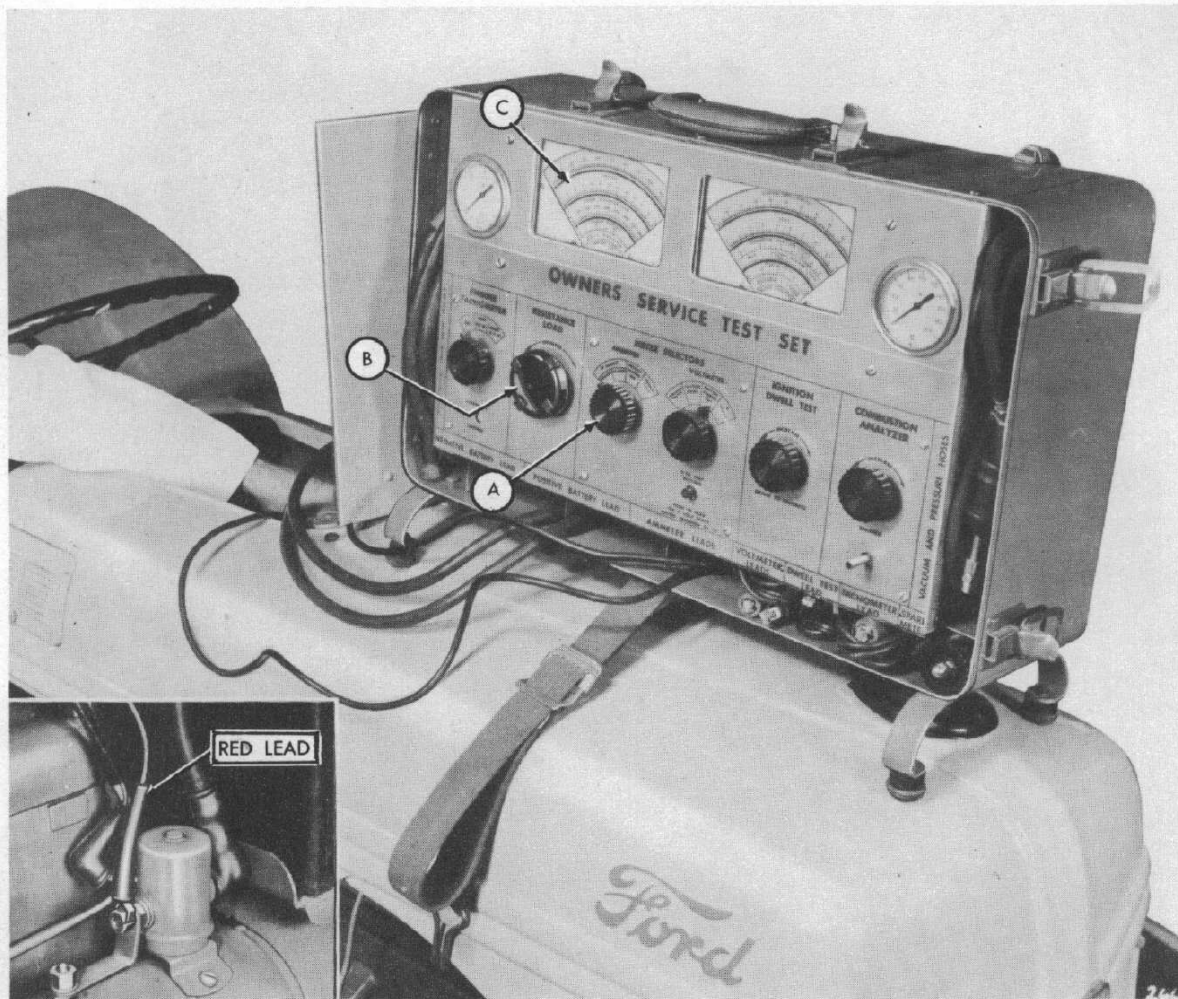

Fig. 4
Step 1—Turn the ammeter knob (A-Figure 4) to **NORMAL**.
- a. The red lead (positive) is clamped to the starter relay connection which goes to the starter (see insert, Figure 4.)
NOTE: Make sure the Resistance Load Knob (B-Figure 4) is turned all the way to the left.
Step 5—Hold the black lead (negative) against the negative battery post with the left hand as shown in Figure 4.
Step 6—While the starter is turning, read the exact amperes indicated on the amperes scale (C-Figure 4).